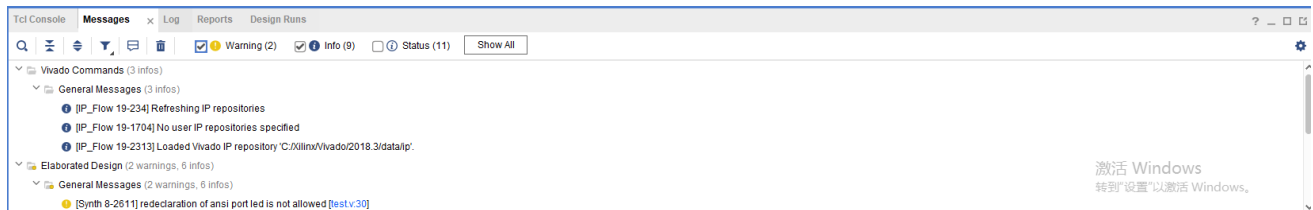

Figure 8.
7. Expand the Elaborated Design and the messages, as shown in figure 8.